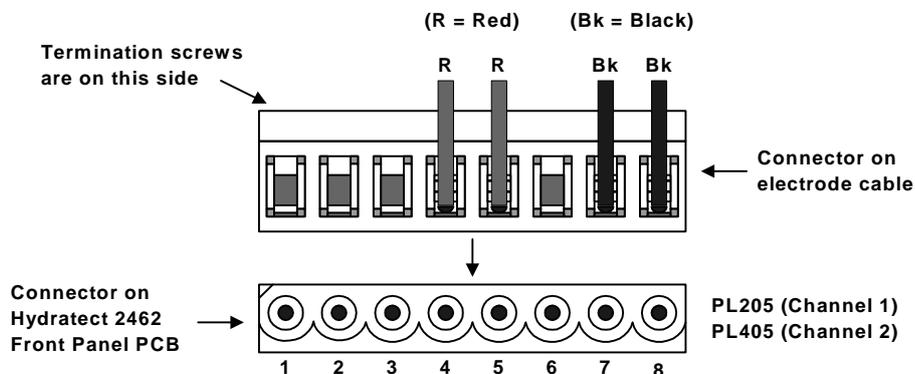

Figure 3.7: Fitting the electrode cable to the 8-way connector
- 5 Fit the electrode cable to the 8-way Klippon connector by screwing in the crimped-on pins as shown Figure 3.7